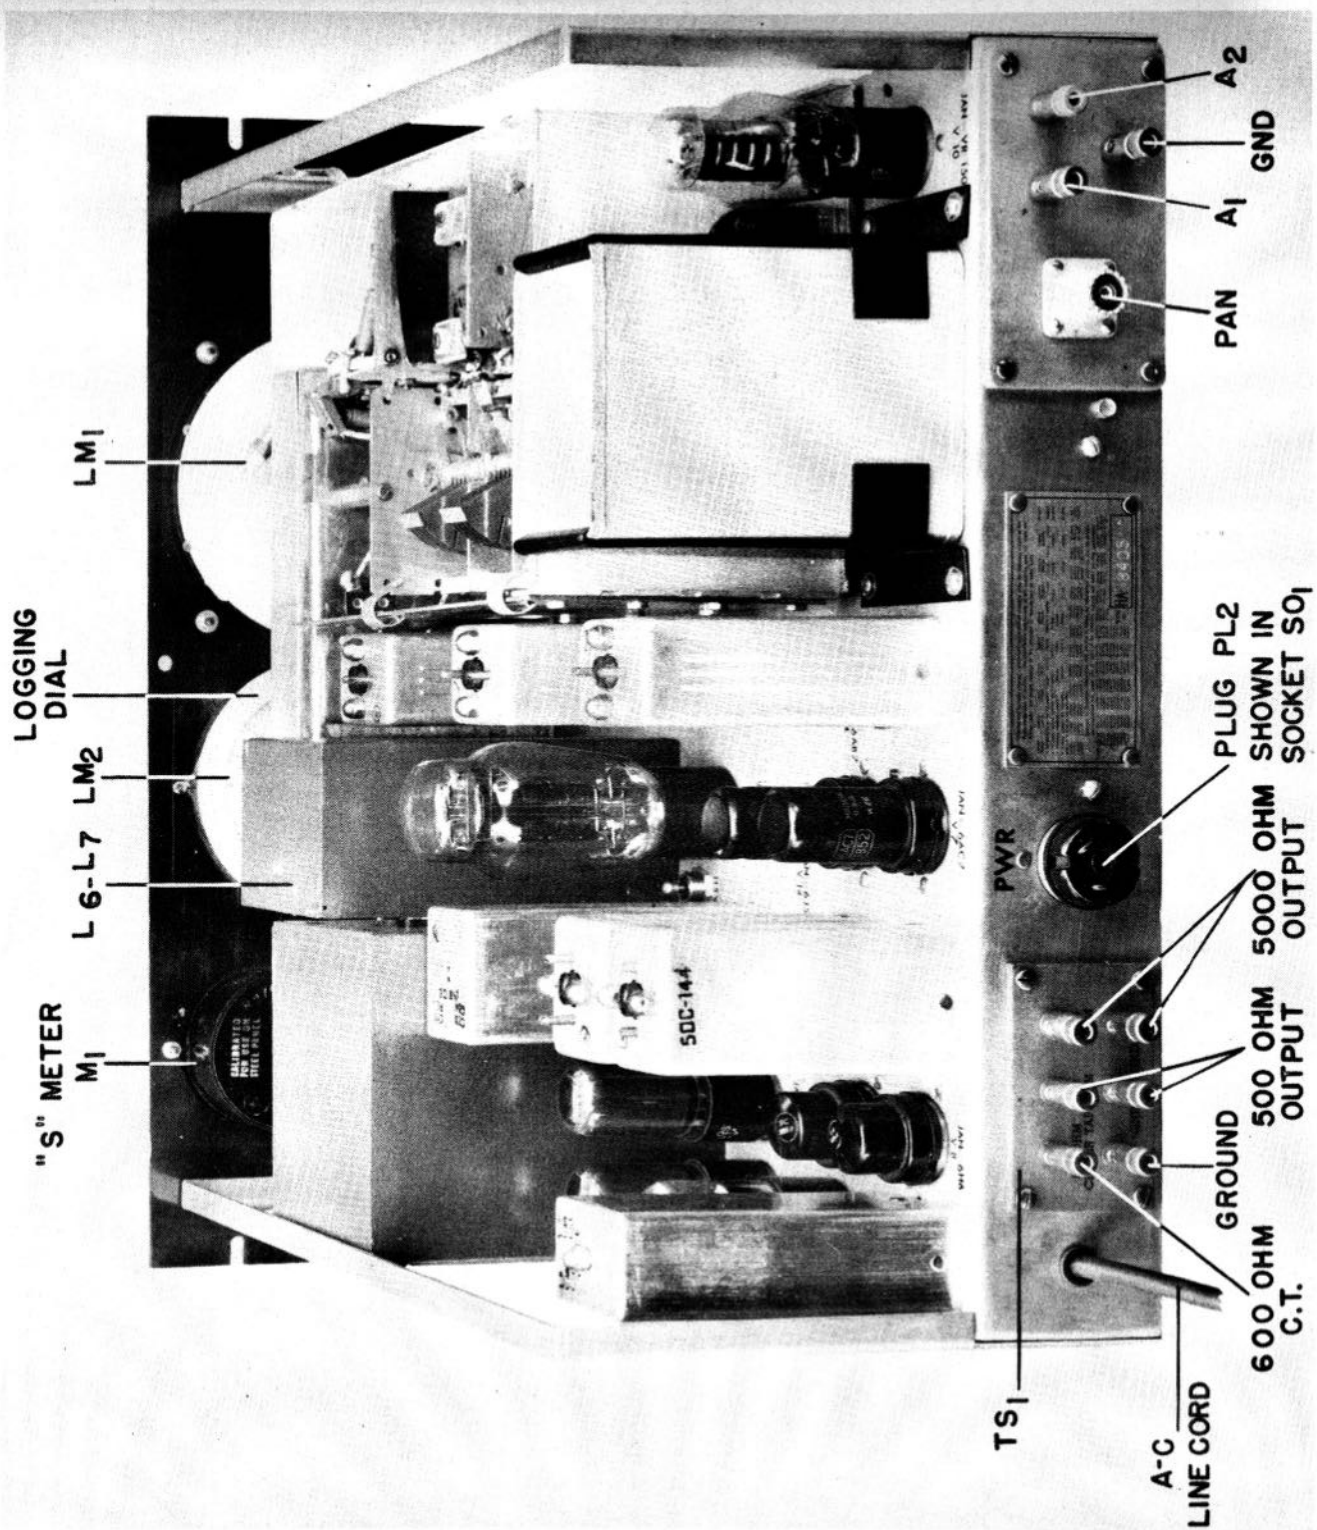

Figure 6. Radio Receiver CHL-46130-C, Top Rear View
a. Signals picked up by the antenna enter the receiver through the antenna binding posts on terminal strip TS₂ (Marked A₁ and A₂.) on the rear apron of the chassis. (Refer to figure 6) The signal is fed to the radio frequency amplifier tube (V₁) through the antenna transformer (T₃). The secondary of this transformer (T₃) is tuned by capacitor C_{1A} and trimmed by capacitor C₂.
d. A shielded lead from the plate circuit of the converter tube (V₂) feeds the intermediate frequency signal voltage, through an isolating resistor (R₇₁), to a panoramic adapter connection. This output connection is an Amphenol type 83-1R coaxial socket. It is located on terminal strip TS₂, on the rear apron of the chassis. Refer to figure 6.